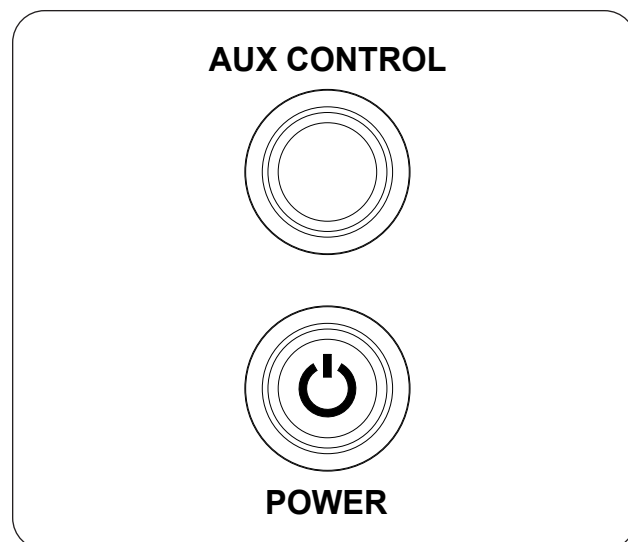

Fig. 39-1 Manual Operation:
1. Locate the **POWER** button on the control panel, and push it (see Fig. 39-1). The light will illuminate indicating the system is on and ready.
2. Locate the **AUX CONTROL** button on the control panel, and push it (see Fig. 39-1). The light will illuminate and the burner ignition sequence will begin.
**WARNING: If the pilot fails to light within 15 seconds, or if the burner fails to light within 15 seconds of pilot lighting, push the POWER button on the control panel to turn off. Allow five (5) minutes for any gas in the unit to dissipate, then repeat steps 1-2 above. IF YOU SMELL GAS, SEE STEP C ABOVE.**
**To shut down the burner (system will remain on)**, push the **AUX CONTROL** button (see Fig. 39-1).
**To shut down the burner and system (total shutdown)**, push the **POWER** button (see Fig. 39-1).